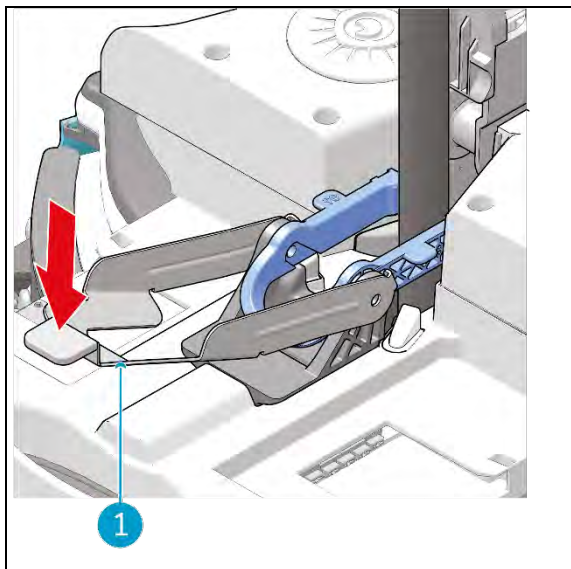

Figure 22
1. Push the edge of the drive support down (Figure 22, pos. 1) to bring the drive support up .